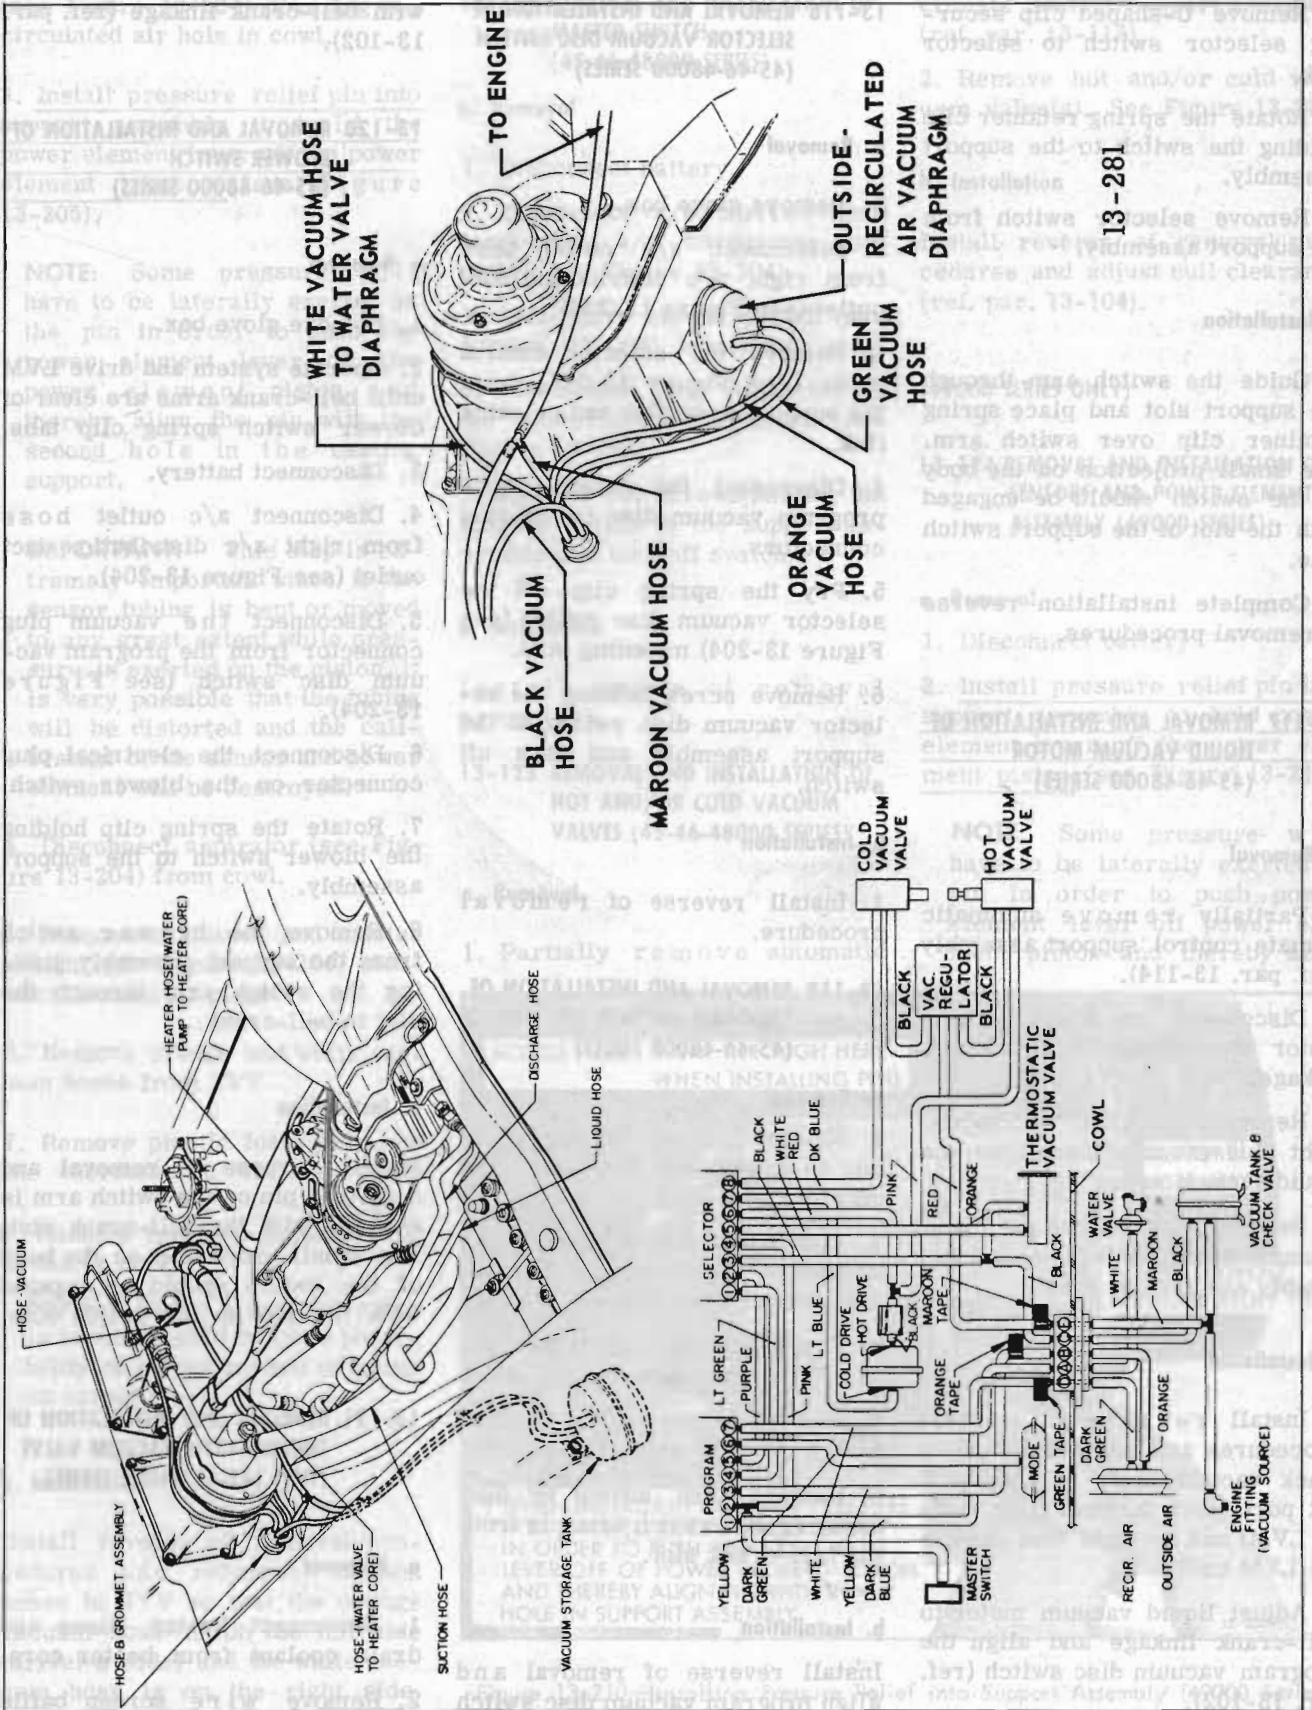

Figure 13-208—Vacuum Hose Installation (45-46-48000 Series)
3. Reconnect the vacuum hoses as follows: pink hose to hot vacuum valve, dark blue hose to cold vacuum valve, red hose to vacuum regulator, plain black hose to hot port (rear) of LVM, and light blue hose to cold port of LVM (see Figure 13-208).